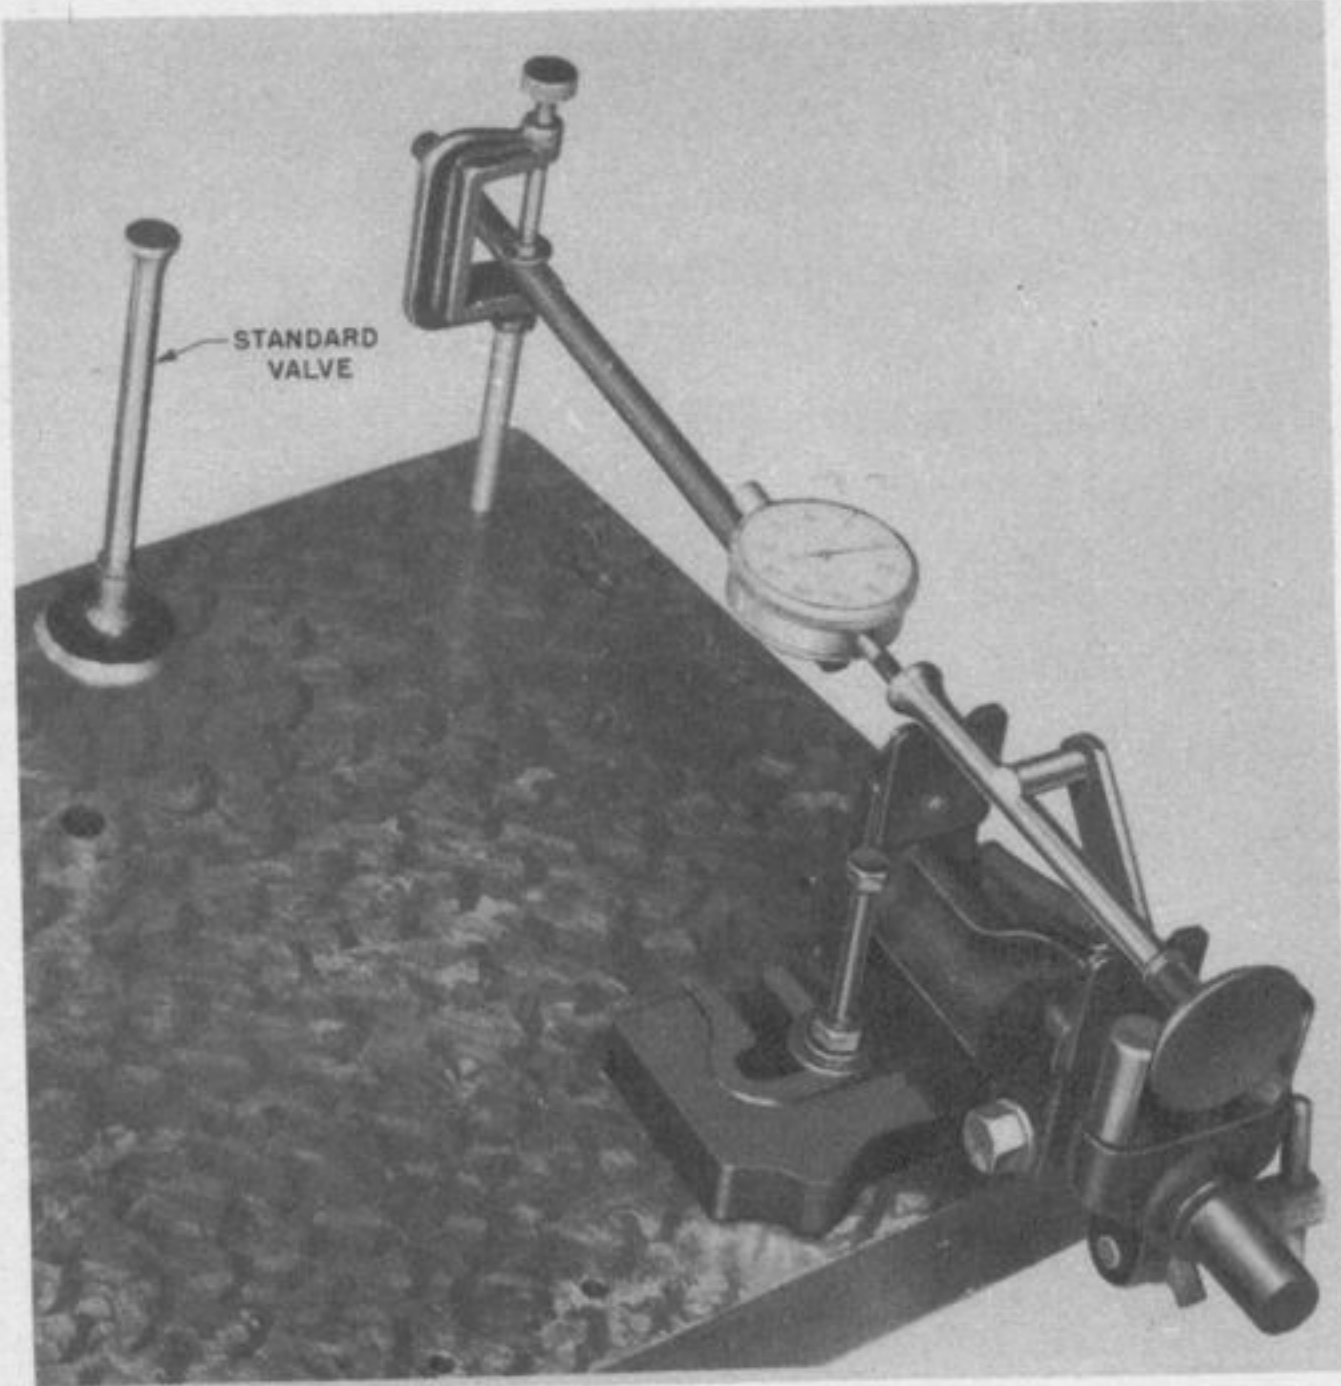
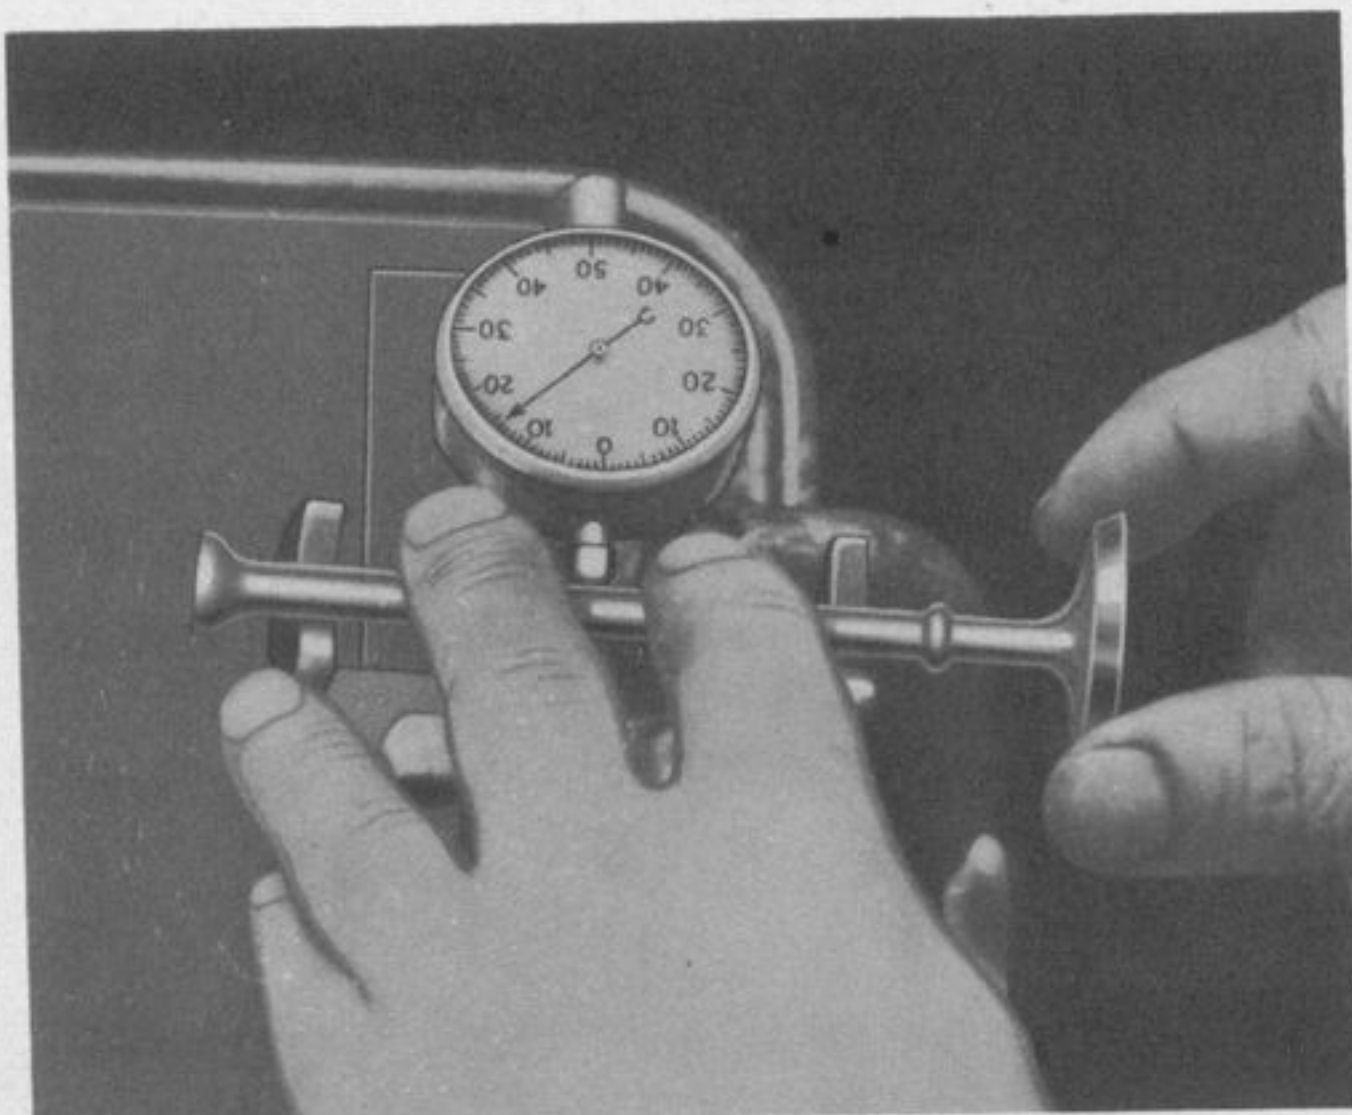

Figure 61—Measuring Valve Stem Length
Figure 62—Checking for Bent Valve Stem
a. VALVES. Valves with warped or badly burnt heads that will not clean up should be scrapped when refacing. Check valve stem length (Fig. 61). Check for bent valve stems (Fig. 62). Replace valves that have stems bent in excess of 0.001 inch.